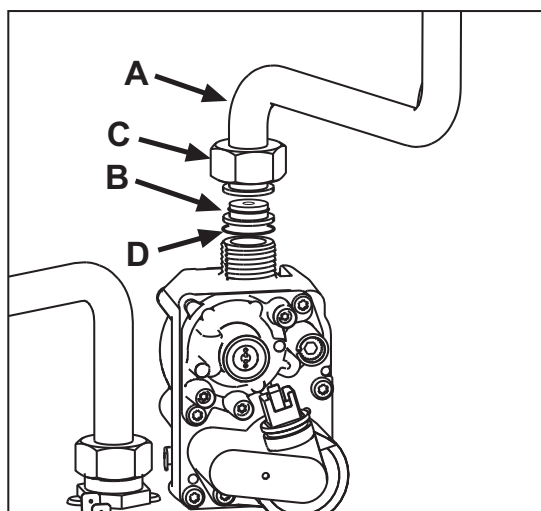

fig. 23
3. Unscrew ring C and remove gas pipe A from the gas valve (see fig. 23).
4. Replace nozzle B inserted in the gas pipe with that contained in the conversion kit, interposing seal D (see fig. 23).